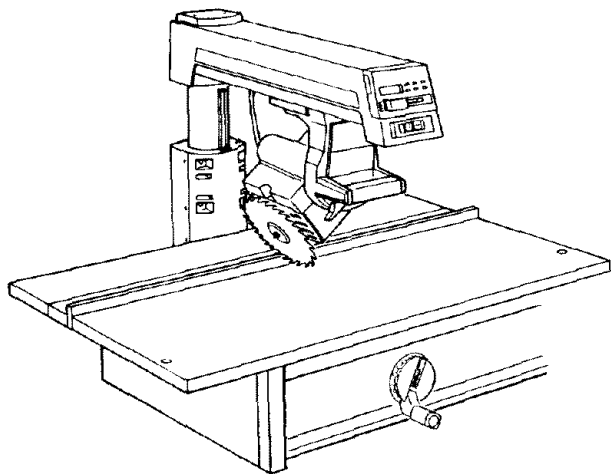

Fig. 83
15. Unlock the *bevel lock* and move the *motor* to the 45° bevel position. (Figure 83)